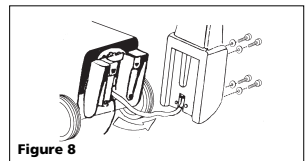

Figure 8
9. Hook up chemical suction hose to the tip on the bottom of the handle (Figure 8).